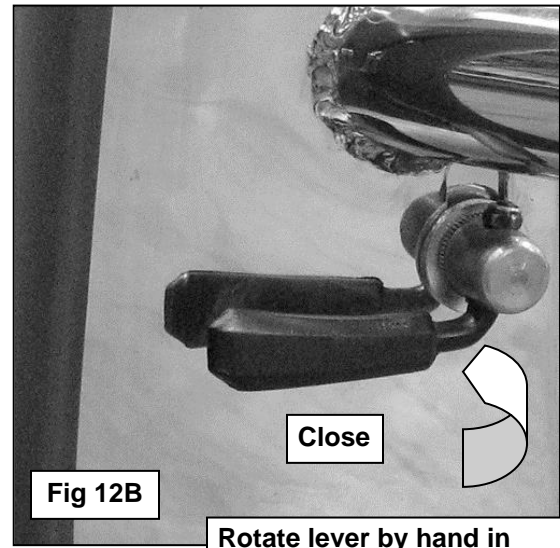

Fig 12B
13. Push the Grille Guard back towards the vehicle until it is upright, check the alignment again and adjust the Grille Guard as required. Tighten all Mounting Bracket hardware including the Quick Release Bolts, **(FIGURE 12B)**.
4. Once the hood is completely closed, push the Grille Guard back to its closed, upright position and tighten all hardware on the Grille Guard. Rotate the lever on the Quick Release clockwise to tighten, (**FIGURE 12B**). No tools are required to close the Quick Release levers. It will require some effort to open and close by hand when properly adjusted.